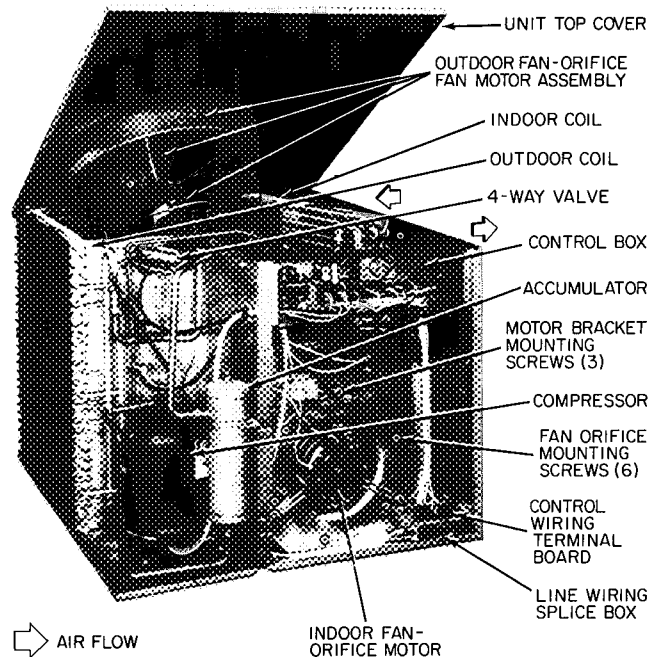

Fig. 10 – Component Location
See Table 6 for compressor information and Fig. 10 for component location. Follow safety codes, and wear safety glasses and work gloves. Have quenching cloth available (step 8).
COIL – Lift or remove unit top cover for access to indoor coil. See Fig. 10. Inspect coil periodically. Clean as described under Condenser (Outdoor Coil) below.
Indoor Fan Removal – See Fig. 10. Disconnect fan motor wiring. Remove sheet metal screws (6) holding fan orifice in place. Remove fan motor bracket mounting screws (3). Slide out complete fan, motor and orifice assembly.
COIL – Lift or remove top cover for access to outdoor coil. See Fig. 10. Inspect coil periodically. Clean coil with water at the beginning of every cooling season or more often if required. Use ordinary garden hose at a pressure high enough to clean efficiently. For best results, spray coil fins from inside-to-outside the unit or top to bottom between rows of tubing. Flush dirt from base pan by spraying water thru top of unit. Avoid splashing mud on coil or water on the fan motor.
OUTDOOR FAN AND MOTOR REMOVAL – Remove screws holding outdoor coil fan grille in place. Disconnect fan motor leads from controllers and capacitor. Lift complete fan, motor and orifice assembly (Fig. 10) out of unit. After replacing fan motor assembly, reconnect fan motor leads.